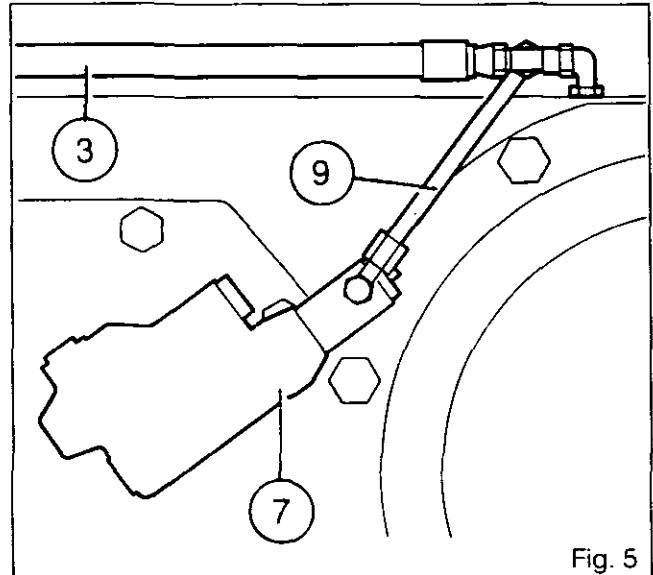

Fig. 5
*Note: There is a version with trailer brake (Fig. 3) for tractors equipped with a single-circuit assembly. The trailer brake valve (7) is controlled by a pipe (9) connected to the feed hose (3) of the right hand-brake, on the upper part of the rear axle housing (Fig. 5).*